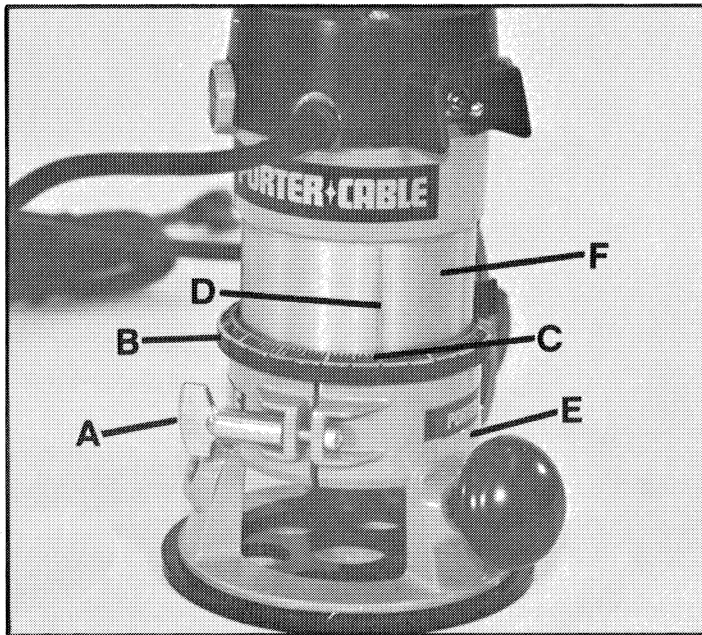

Fig. 7
2. Loosen Clamp Screw (A) Fig. 7.
3. While holding Base (E), turn Motor Unit (F) Fig. 7 COUNTERCLOCKWISE until the tip of the bit is above bottom surface of Base.
5. Turn Motor Unit (F) Fig. 7 CLOCKWISE until bit touches the wood surface.
6. Tighten Clamp Screw (A) Fig. 7.
7. Rotate Depth Adjusting Ring (B) Fig. 7 until the Zero-line (C) is opposite the Index Line (D) on the housing.
8. Loosen Clamp Screw (A) Fig. 7.
9. Tip the router so bit is clear of the wood surface. Turn Motor Unit (F) Fig. 7 CLOCKWISE until the Index Line (D) on the motor housing reaches the desired depth indicated on the ring.
10. Tighten Clamp Screw (A) Fig. 7 firmly.